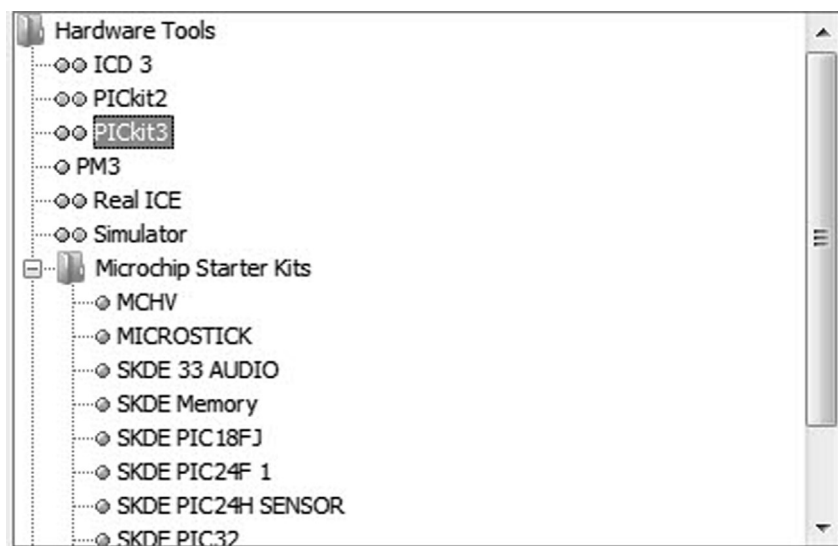

Figure 3.6: Select PICkit 3.
Step 4. Click Next and select Hardware Tools: *PICkit 3* as in Figure 3.6.